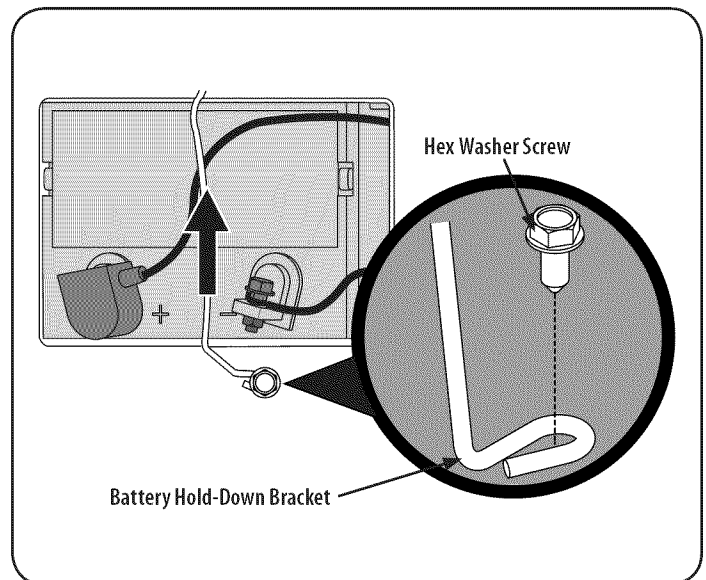

Figure 22
1. Remove the hex washer screw securing the battery hold-down bracket to the frame. Then flip the battery hold-down bracket up to free the battery. See Figure 22.